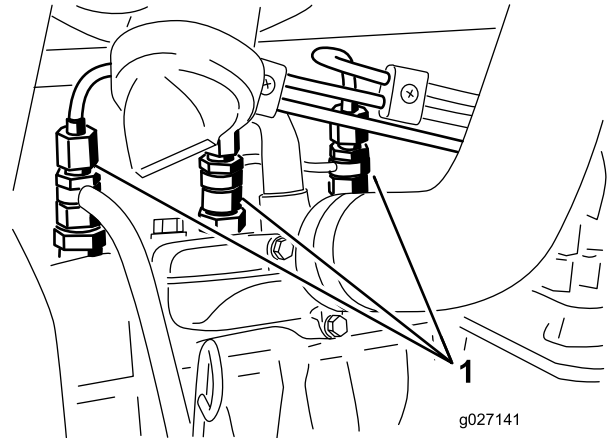

Figure 60
1. Loosen the pipe connection to the No. 1 nozzle and holder assembly (Figure 60).